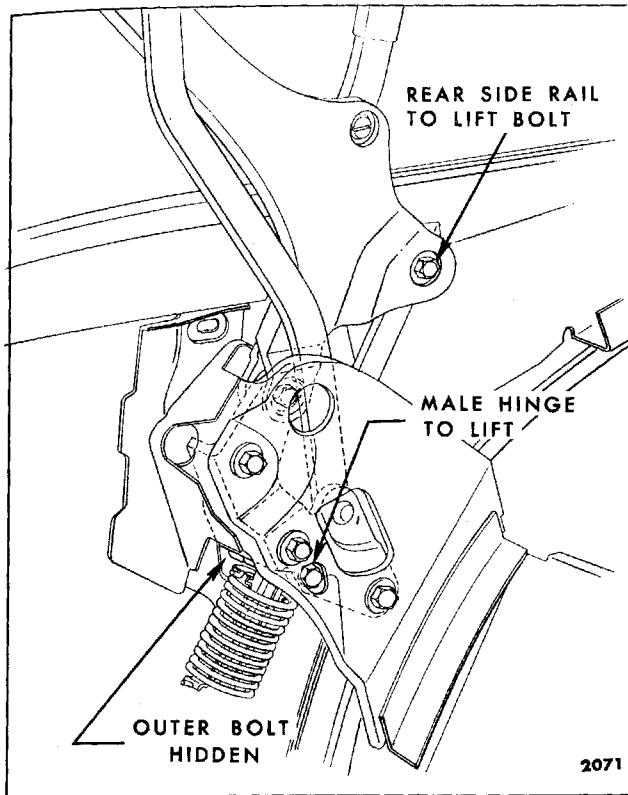
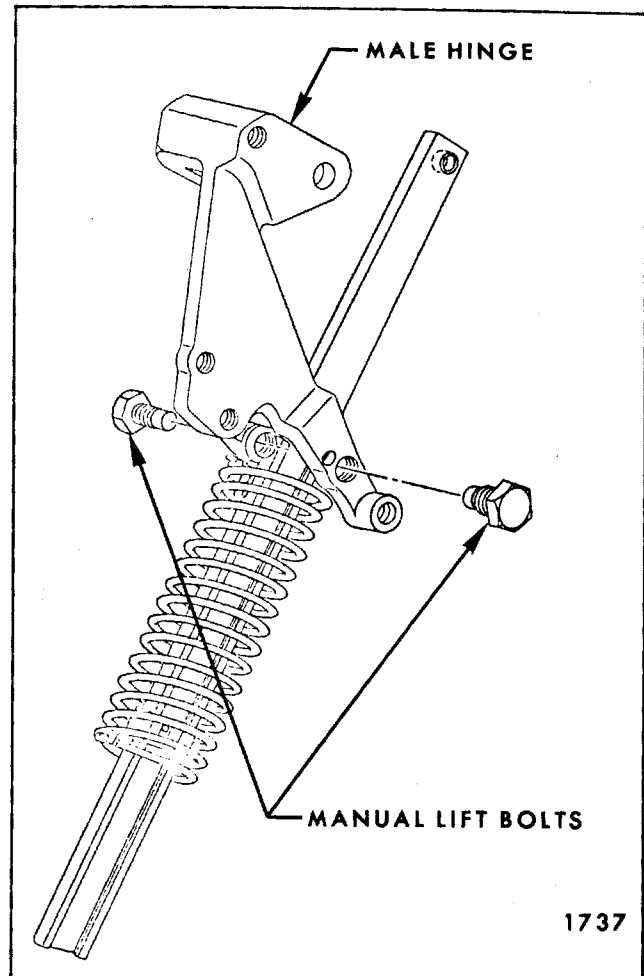

Fig. 6-77—"A" Body Manual Lift Assembly
Fig. 6-78—Manual Lift Attachment
4. Remove inner and outer bolt securing lift assembly to male hinge; then remove assembly from body (Fig. 6-77 for "A" body and Fig. 6-78 for "Z" body).